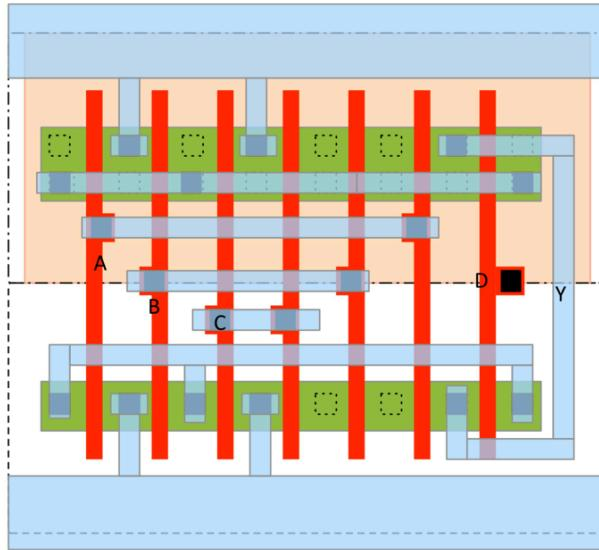

Figure 8.3: The layout for a 4-input static CMOS gate.
b) In Figure 8.3 is the layout for a compound static CMOS implementation of a 4-input logical function. Draw the circuit schematic for the gate and find the Boolean expression for the logical function. (5 p)